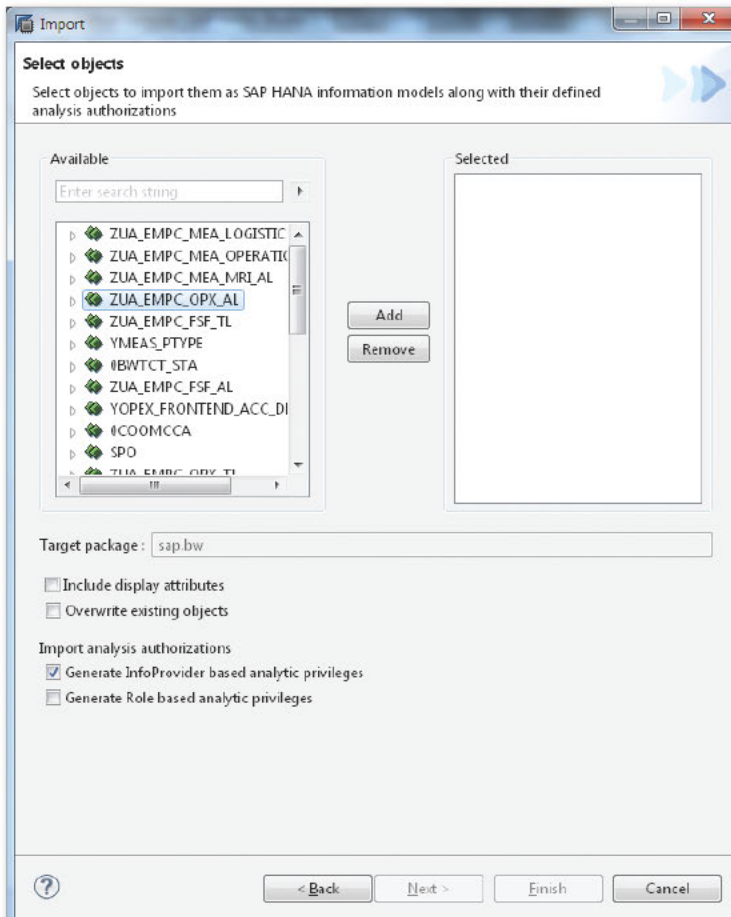

Figure 2 Select the SAP NetWeaver BW DSO from the InfoArea
6. Navigate to the relevant InfoArea, and move the relevant available object from left to right by selecting the SAP NetWeaver BW model and clicking on the ADD button. Click NEXT and FINISH (see Figure 2). Note that imported models will